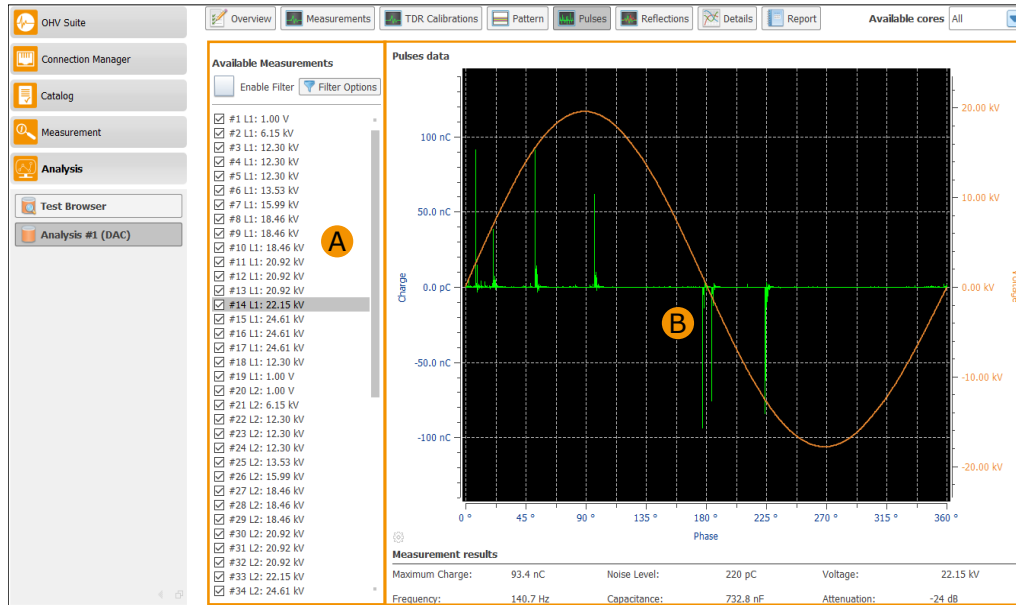

Figure 8.13: Pulses Overview (DAC test)
The pulse overview shows for the individual shots (A cf. Figure 8.13) the phase resolved TE events of the first period. In the right area (B) the pulse data of the selected shot are then displayed. The upper portion of B displays the calculated values as well as the used attenuation of the selected shot.